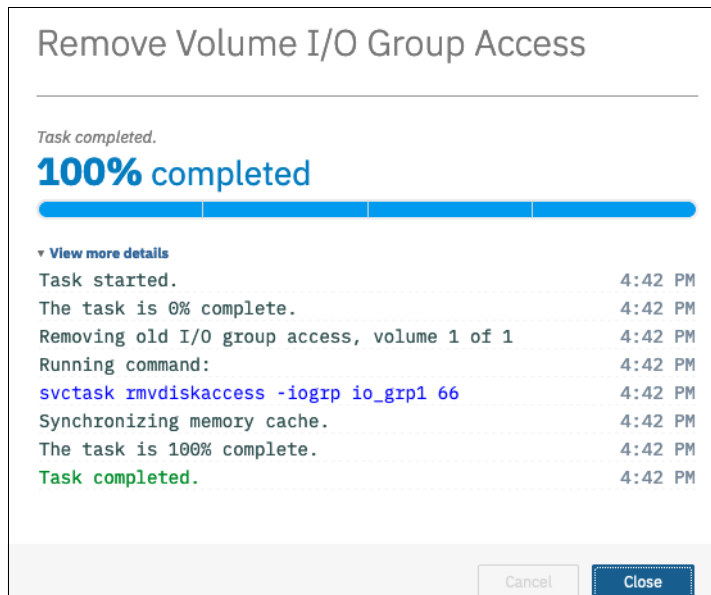

Figure 6-72 Modify I/O Group for a mapped volume wizard: Second stage completes (details)
- After validation is complete and the acknowledgment box is checked, click **Apply** and **Next**, as shown in Figure 6-72.